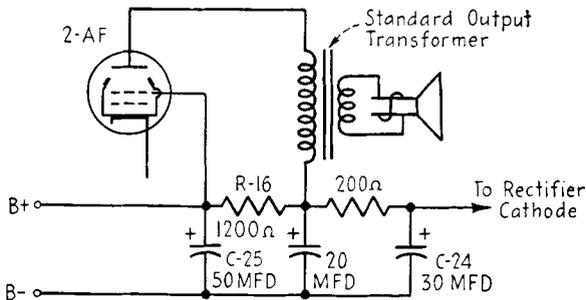

FIG. 18-32. Replacing a hum-bucking-type output transformer, method 4.
4. Use the circuit of Fig. 18-32. This provides a second section R-C filter.